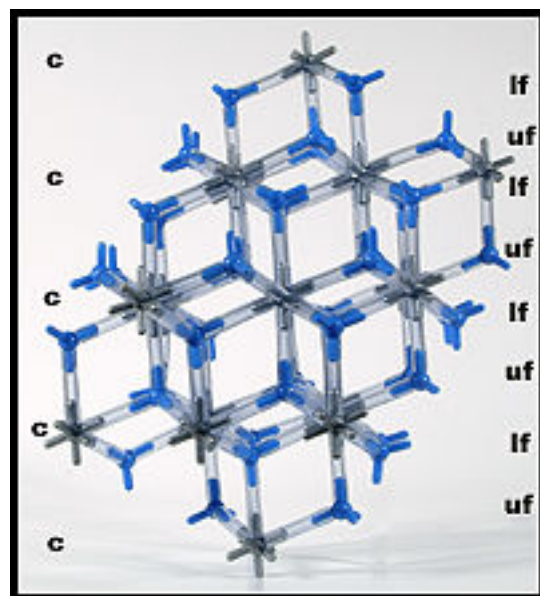

Fig. 13 Orientation of the model showing cation and anion layers. c=calcium layer; uf=upper fluoride layer ( $T_+$ ); lf=lower fluoride layer ( $T_-$ ).
11. If the fully constructed model is oriented as seen in Fig. 13, you can observe 5 layers of calcium ions and eight layers of fluoride ions. The cations are arranged in an A, B, C pattern of layers. The anions fill the tetrahedral holes above ( $T_+$ ) and below ( $T_-$ )